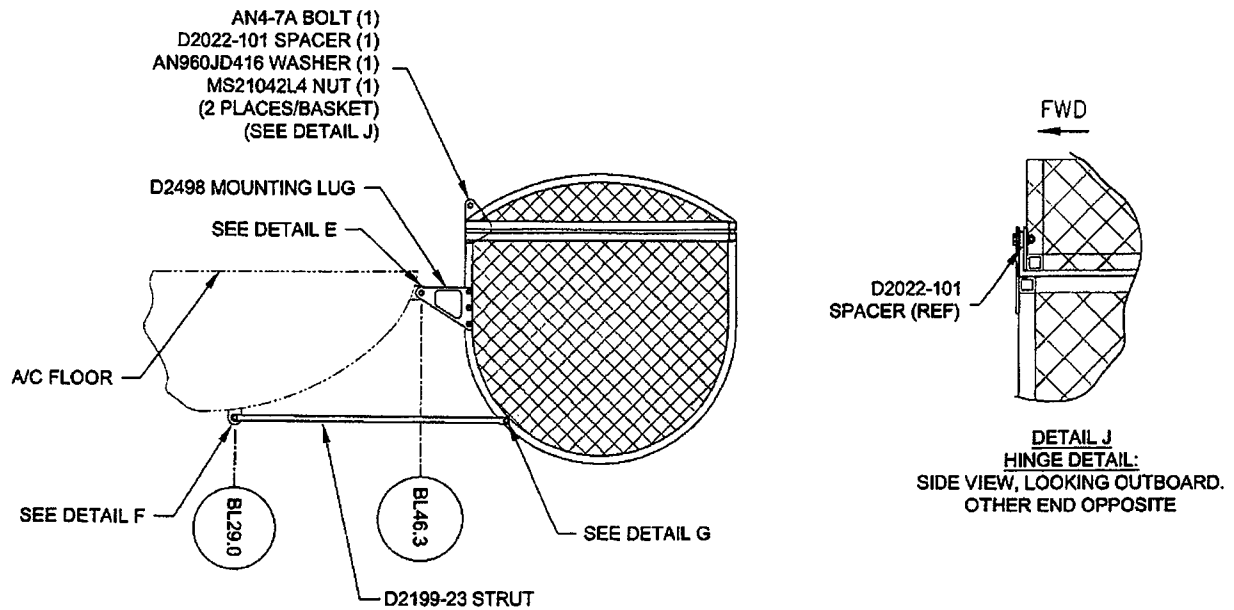
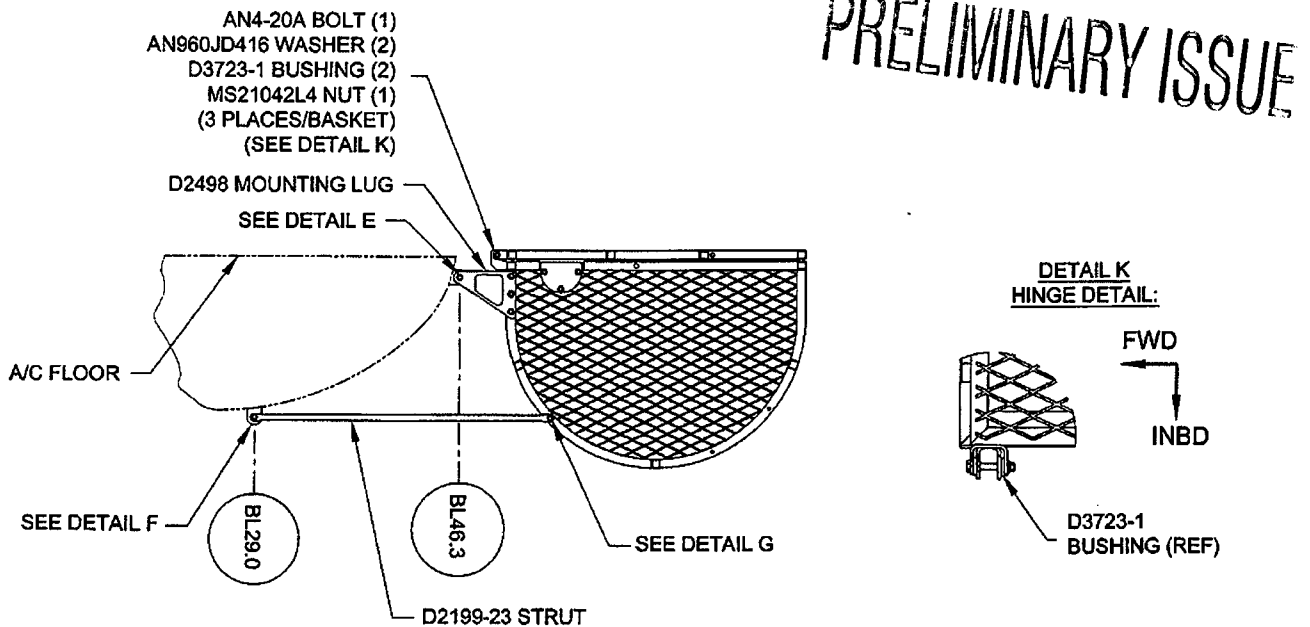
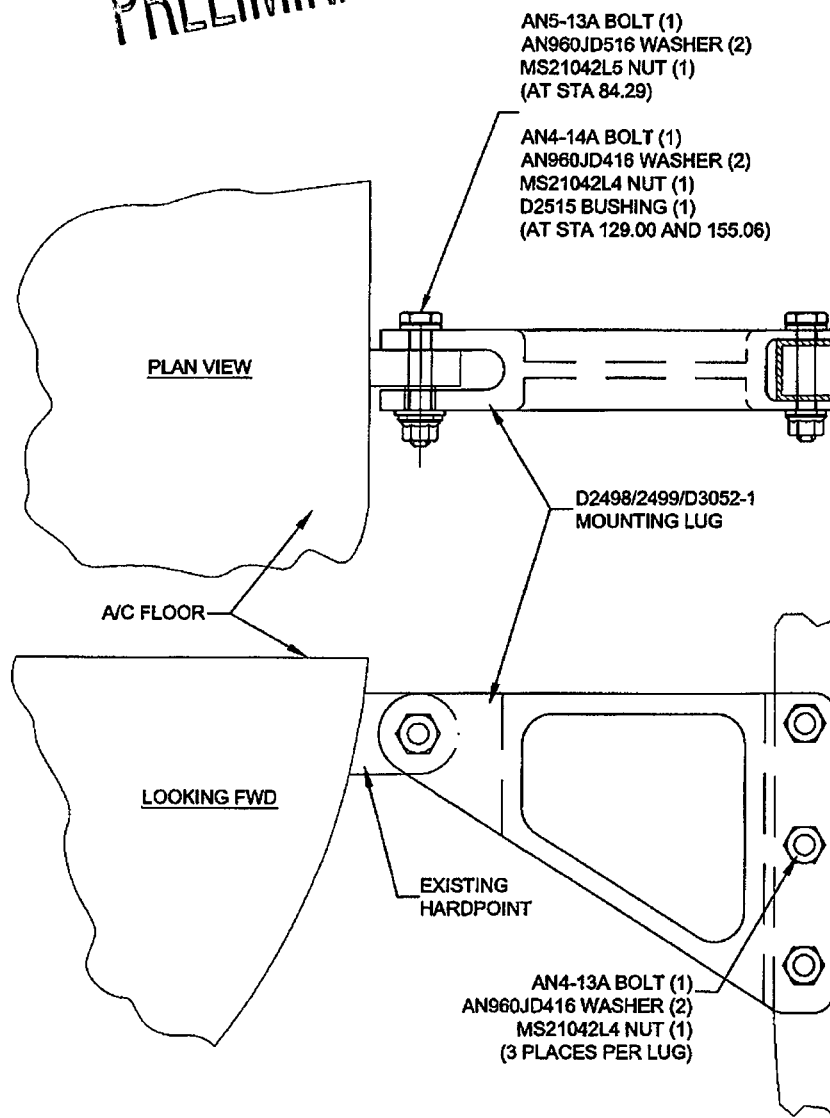
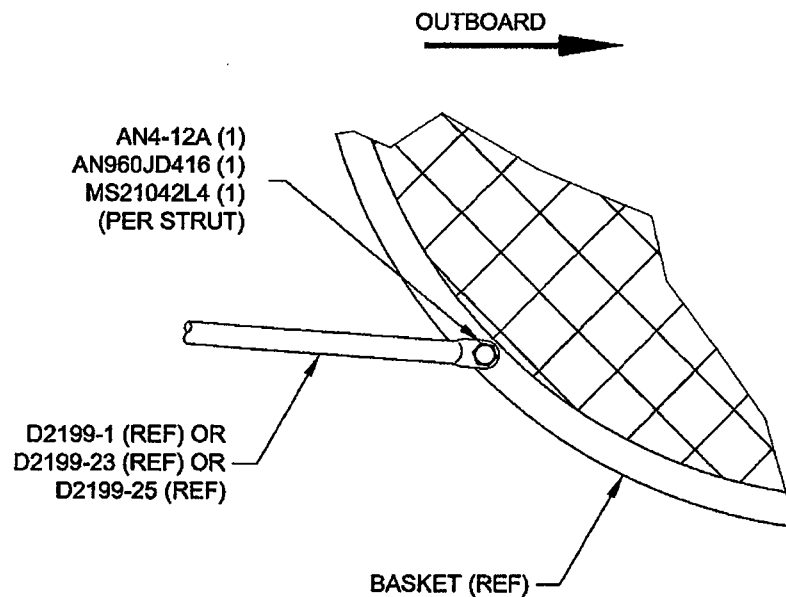

Figure 2a - Section A-A Looking Fwd at STA 84.29
Figure 2b - Section A-A Looking Fwd at STA 84.29
Figure 6 – Detail 'E' Mounting Lug Installation
Figure 8 – Detail 'G' Strut to Basket Attachment
- 3.1.1 If not already installed, install the D2498 (STA 84.29), D2499 (STA 155.06), and D3052-1 (STA 129.00) mounting lugs onto the basket as shown in Figure 6. Refer to Figures 2a, 3a and 4a or 2b, 3b and 4b for mounting lug locations. Install D2199-23/-1/-25 struts onto the basket as shown in Detail G (Figure 8).
- 3.1.3 Attach the basket to the aircraft hardpoints at STA 84.29, STA 129.00, STA 155.06 as shown in Figures 2a, 3a, and 4a for the D205-541-043/-044 *Heli-Utility-Basket™* or Figures 2b, 3b, and 4b for the D205-541-45/-046 *Heli-Utility-Basket™*.